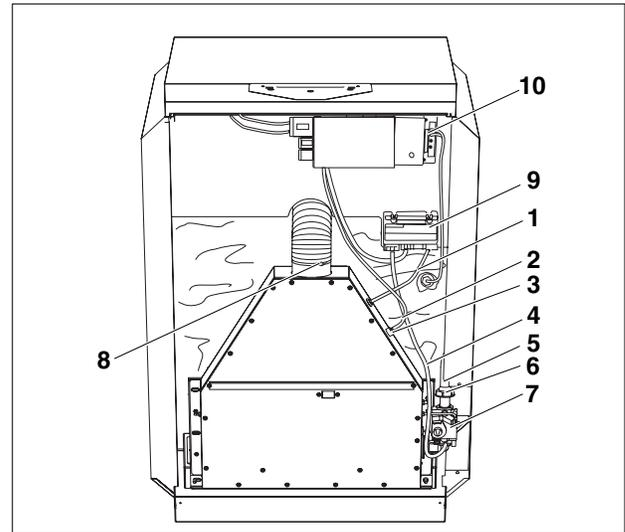

Fig. 39 Front view
2. Reassemble and install the gas burner in reverse order from its removal. Tighten the four (4) burner tray nuts evenly (see page 38 to page 39.)
3. Secure union between gas valve (Fig. 39, **Item. 7**) and gas supply pipe (Fig. 39, **Item. 5**) and make sure to install the gasket, discussed in step 8 on page 39.
5. Reconnect wires to the flame roll-out switch (Fig. 39, **Item. 2**).
6. Remove rope or wire that secured the gas piping (Fig. 39, **Item. 5**) as discussed in step 7 on page 39.
7. Reconnect the ignition cable (Fig. 39, **Item. 1**) to ignition control box (Fig. 39, **Item. 12**).
11. Verify proper operation of the aquastat (Fig. 39, **Item. 10**).